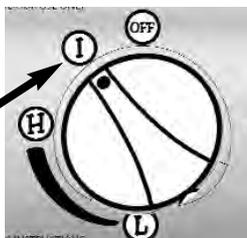

FIG. 20B
- 3) From the "OFF" position, push in and turn the Control Knob counterclockwise to "I" when you feel resistance. **(FIG. 20B)**